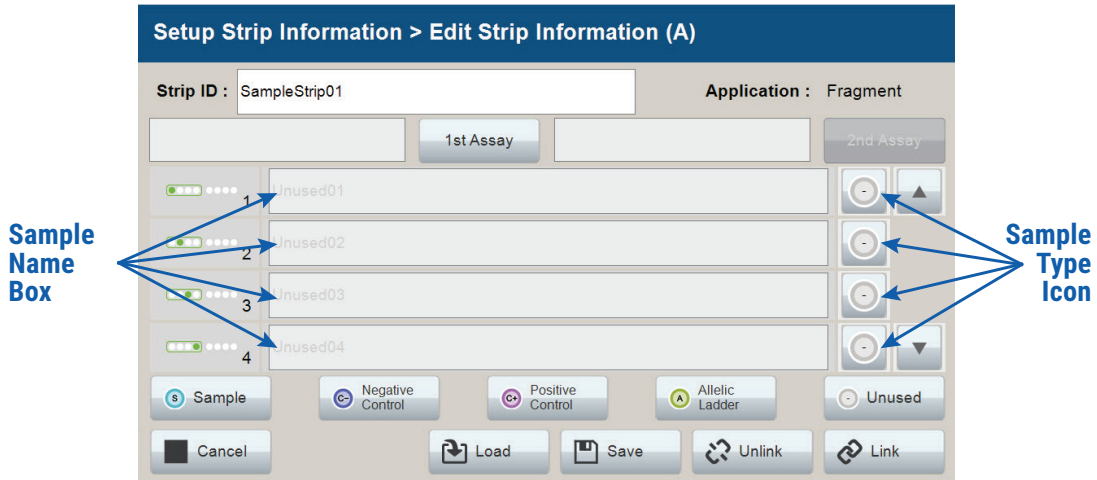
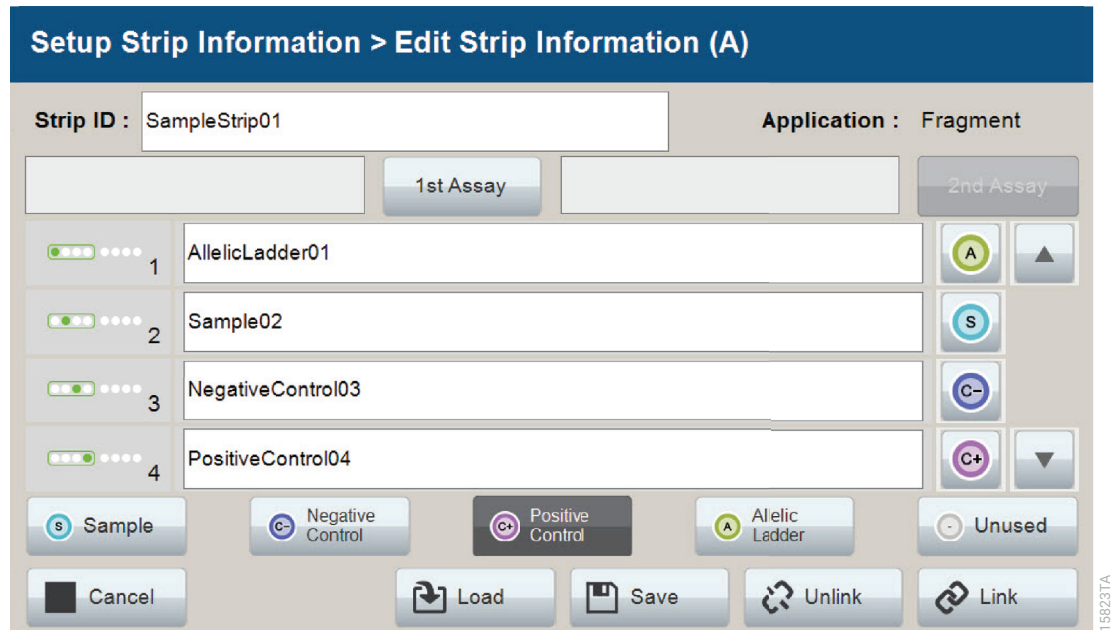
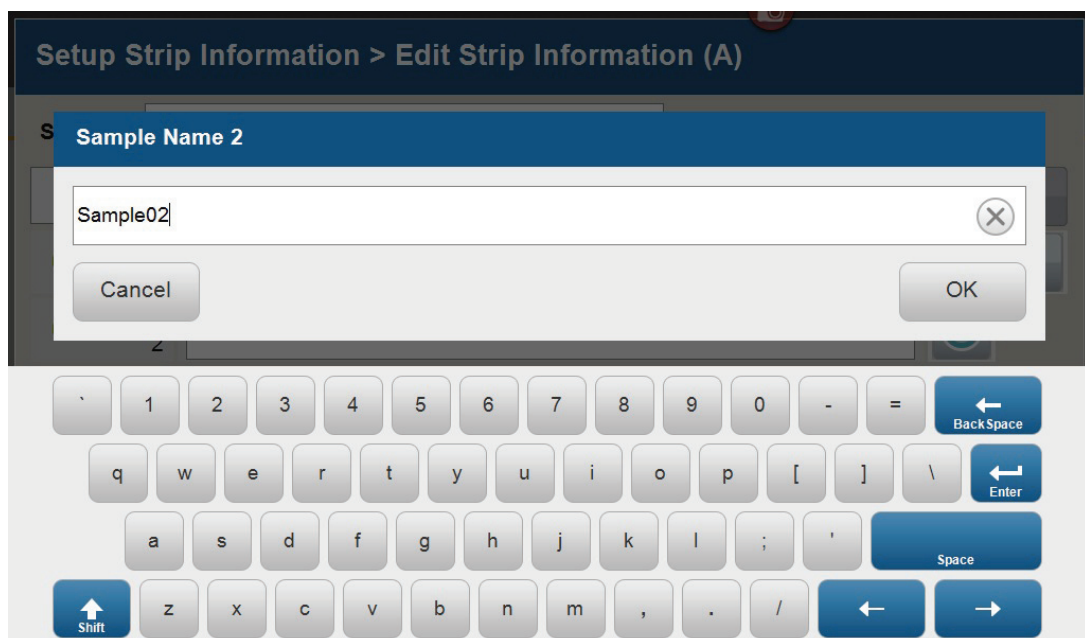
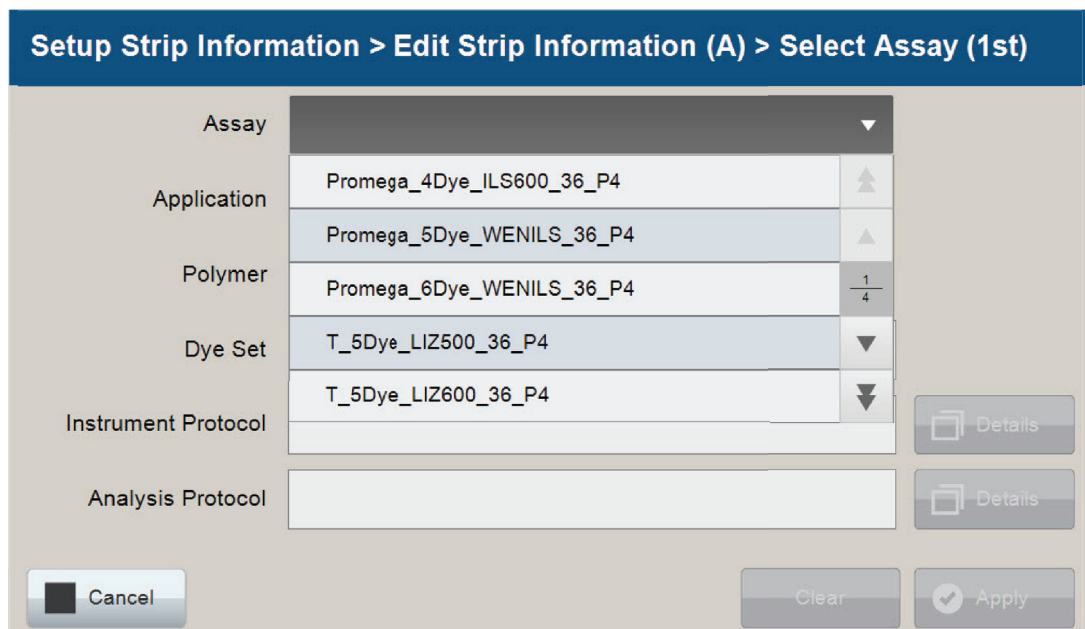

Figure 12. Sample Type and Sample Name on 'Edit Strip Information' screen.
Figure 13. Sample Name Entry on 'Edit Strip Information' screen.
Figure 14. 'Set Sample Name' window.
Figure 15. 'Select Assay' window.
4. Select a sample type on the 'Edit Strip Information' screen (Figure 12). Sample types must be selected for each well position before the Sample Name box becomes active for entry of sample name. Sample types are as follows.
5. To assign a sample type to a well, select the appropriate sample type along the bottom of the 'Edit Strip Information' screen (Figure 12), and then select the **Sample Type** icon to the right of the sample name field for the desired well. This icon will then display the sample type selected for that well (Figure 13).
6. Enter a sample name for each well position by selecting the Sample Name box adjacent to the well number on the 'Edit Strip Information' screen (Figure 13). This opens the 'Set Sample Name' window and a keypad will become active on the touch screen (Figure 14). Alternatively, the Sample Name can be entered using a traditional keyboard if one is connected to the Spectrum Compact CE System. Enter the appropriate sample name, and then select **OK** to exit and return to the 'Edit Strip Information' screen.
- The Spectrum Compact Control Software includes preloaded run assays for use with chemistries available from Promega. Refer to the *Spectrum Compact CE System Operating Manual* #TMD058 for information on creating or modifying assays. To assign a run assay to an injection set, select **1st Assay** on the right side of the 1st Assay field (Figure 13). This opens the 'Select Assay' window (Figure 15). Select "Promega\_5Dye\_WENILS\_36\_P4" from the drop-down list (Figure 15) and then select **Apply**.